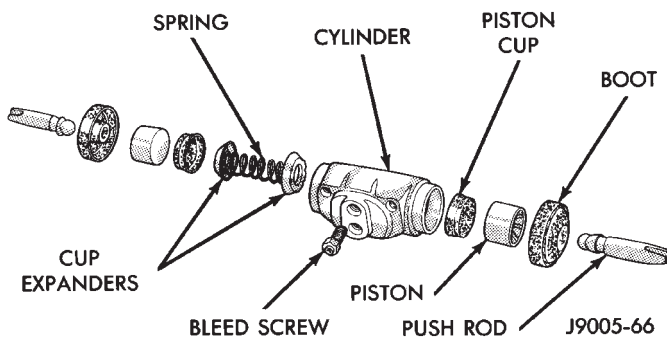

Fig. 49 Wheel Cylinder Components—Typical
- (1) Remove push rods and boots (Fig. 49).
- (2) Press pistons, cups and spring and expander out of cylinder bore.
- (3) Remove bleed screw.